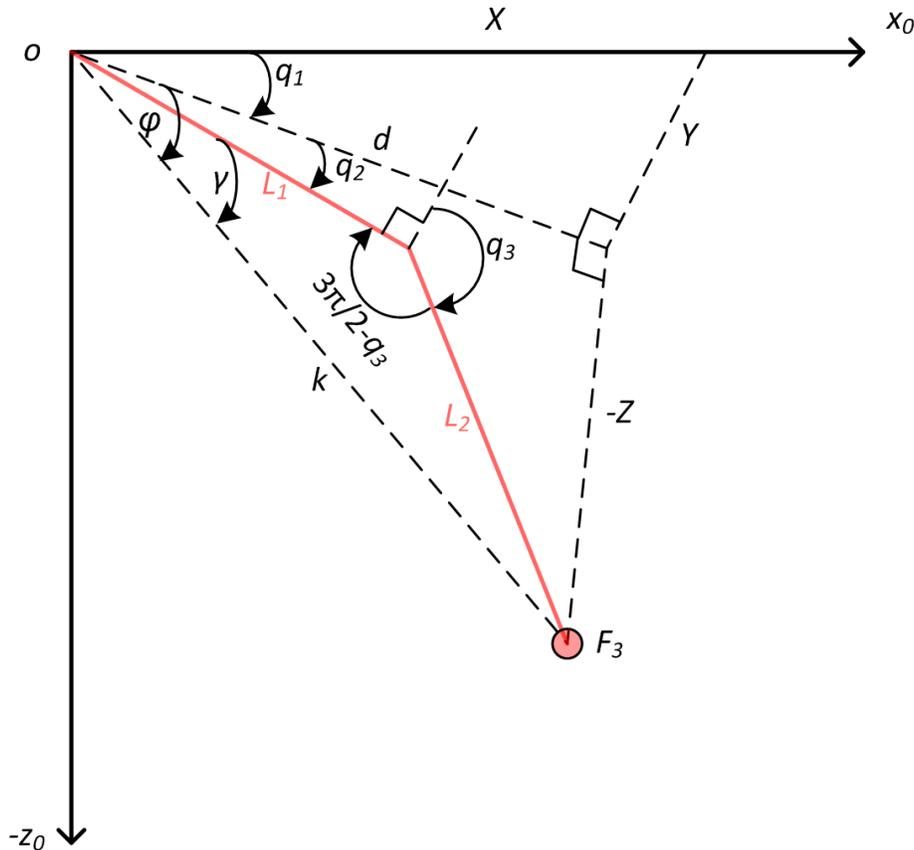

Figure 4.1: Geometry to derive inverse kinematics
1. You will use Figure 4.1 to geometrically derive the inverse kinematics equations. Notice that this figure does not show the end-effector. In other words, the inverse kinematics analysis will be performed by assuming that you have the position of frame 3 in global coordinates and based on it you want to find the position of each joint. Frame 3 is indicated by point F_3 on the diagram.
Note: In Figure 4.1, triangle $-zdk$ is in the vertical (x-z) plane, and triangle YXd is in the horizontal (x-y) plane.